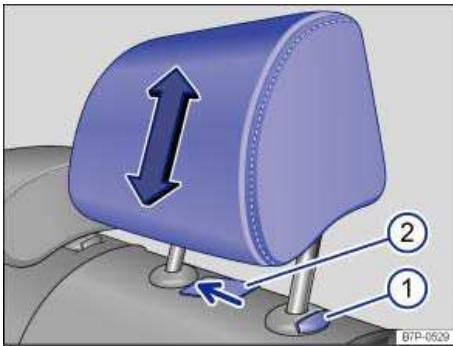

Fig. 48 Removing the rear head restraints.
- Slide a flat object, such as a plastic credit card, underneath the right side of the cap on the right-hand seat guide rod ⇒ *fig. 48 (2)* to unlock the head restraint.
- At the same time press button (1) while a second person pulls out the head restraint completely.